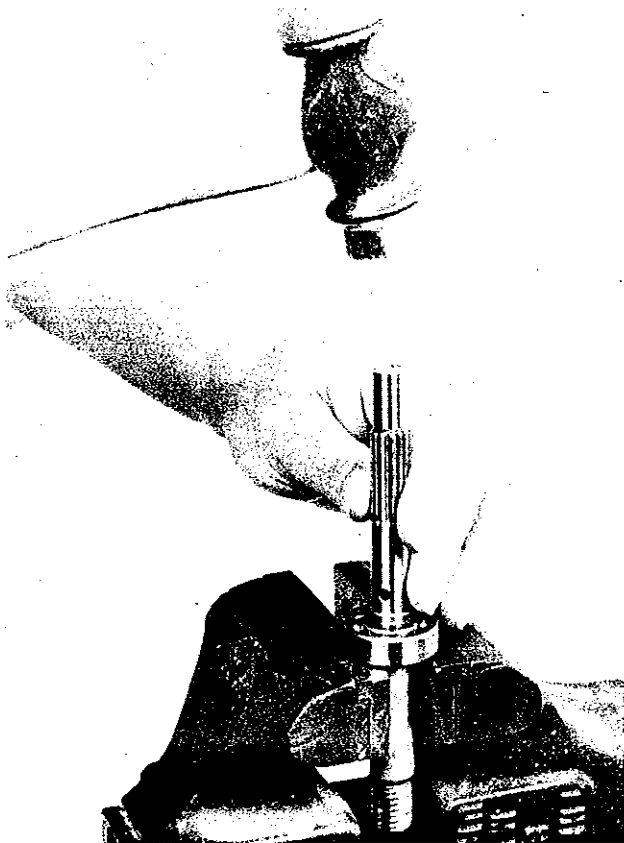

Figure 13. Tap propeller shaft out of bearing.
- P. Place the propeller shaft in a vise so that the vise jaws support the inner race of the ball bearing, but do not touch the propeller shaft. Tap out the propeller shaft with a soft hammer (Figure 13).